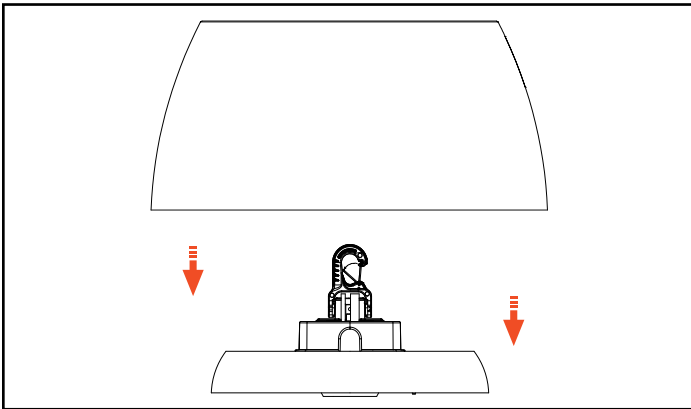
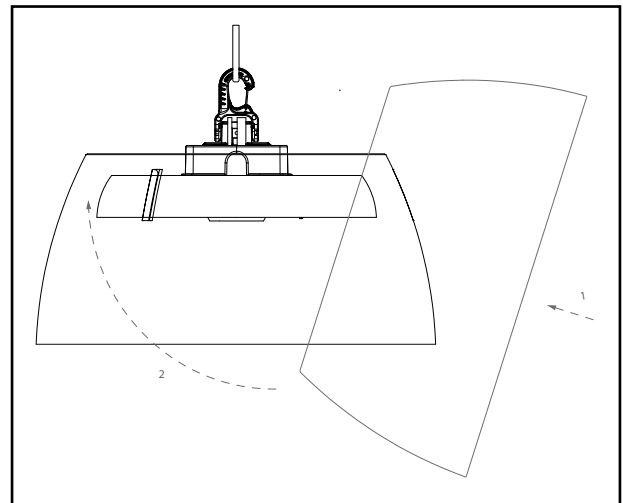

Figure 2.
Figure 5.
3. Slip 3D printed shade over LED Housing. (Figure 2.) Alternatively, the shade can be installed from below after fixture is hung and wired. (Figure 5).
3. Rotate lens by grabbing lens handles with both hands (Fig. 5).